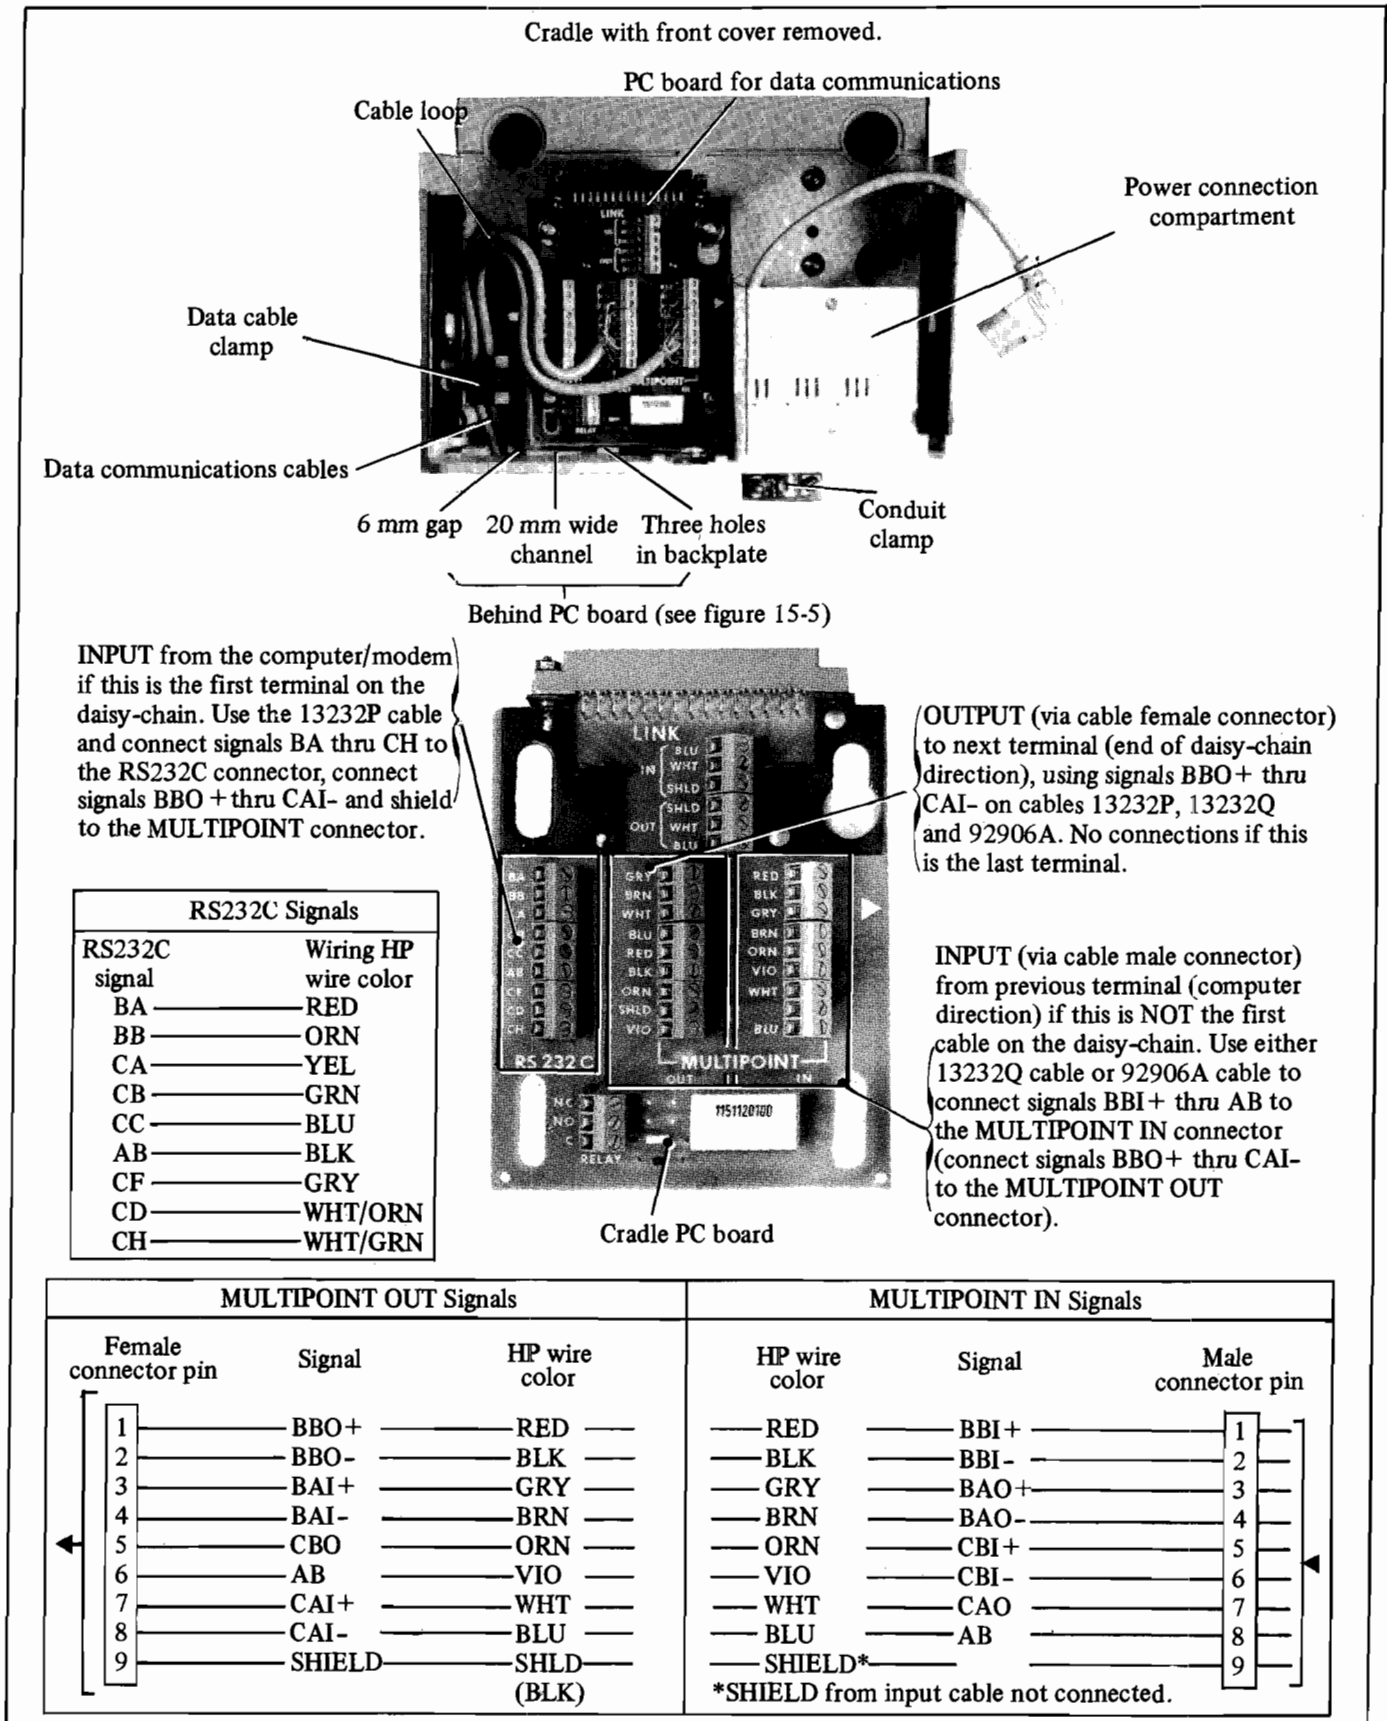

Figure 15-16 Daisy-Chain Cradle Connection
- 4) Within the base, slacken the data cable clamp (see figure 15-16).
- 8) Connect the cables to the relevant screw connector, see figure 15-16.
- 9) Ensure that the daisy-chain cables have a loop (see figure 15-16). This is necessary because when the terminal is installed in the cradle the printed circuit board must be able to move upwards to mate with the terminal 30-pin connector.
- 3) The cables should be routed to the data cable clamp via the 20 mm (0.79 ins.) wide channel at the base of the cradle and through the 6 mm (0.24 ins.) wide gap at the left-hand side of the channel. See figure 15-16.